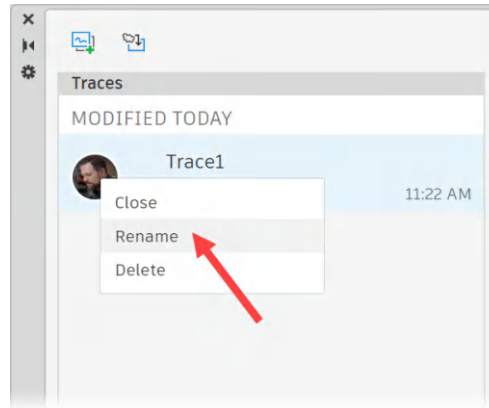

Figure 16.7: The right-click menu on Traces Palette
9. The Trace1 name is a default, so you can easily rename your trace by right-clicking on the trace name. The right-click menu lets you close, rename, or delete the trace. Select **Rename** as shown in *Figure 16.7*.